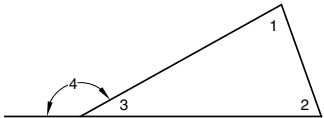

Figure 3-13. Angle 4, an exterior angle, equals the sum of Angles 1 and 2, which are nonadjacent interior angles.
- **The exterior angle of a triangle is equal to the sum of the two nonadjacent interior angles.** Thus, in **Figure 3-13**, Angle 4 equals Angle 1 plus Angle 2.